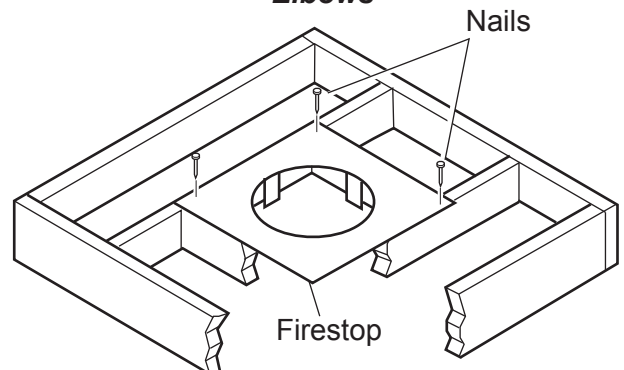
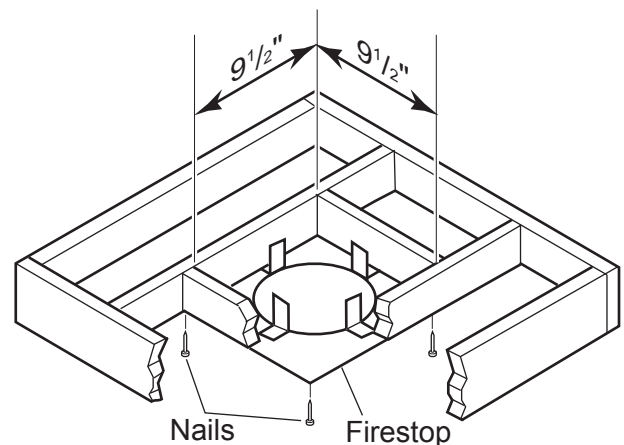

Figure 31 - If Area Above is a Room, Install Firestop above Framed Hole as Shown
Figure 32 - If Area Above is Not a Room, Install Firestop under Framed Hole as Shown
1. Cut a 9 $\frac{1}{2}$ " (241mm) square hole in the ceiling using the locating hole as a center point. The opening should be framed to 9 $\frac{1}{2}$ "x9 $\frac{1}{2}$ " (241 mm x 241 mm) inside dimensions as shown in *Figure 32* using framing lumber the same size as the ceiling joist. If the area above the ceiling is an insulated ceiling or a room, nail firestop from the top side. This prevents loose insulation from falling into the required clearance space. *Figure 31*. Otherwise, install firestop below the framed hole. *Figure 32*.